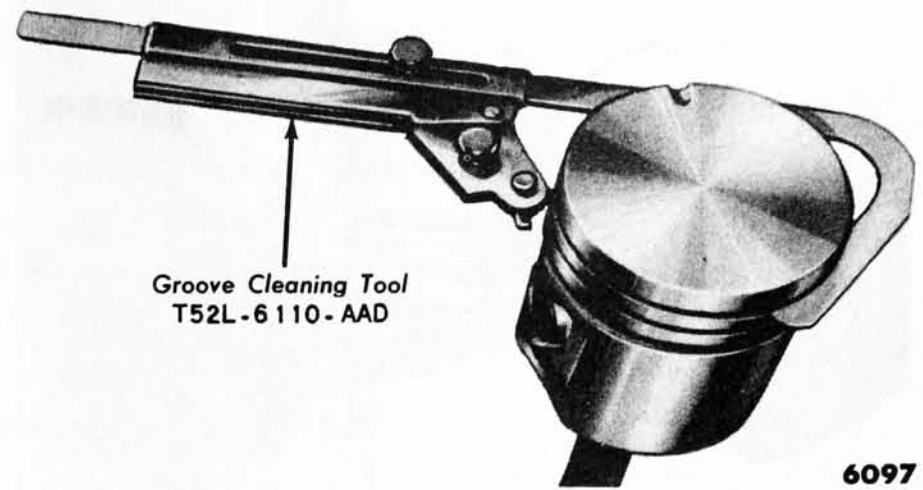

Fig. 36—Cleaning Ring Grooves
(1) **CLEANING AND INSPECTION.** Clean the piston ring grooves with a ring groove cleaner (fig. 36). Clean the piston in solvent. Do not use a caustic cleaning solution. Make sure the oil ring slots (or holes) are clean.